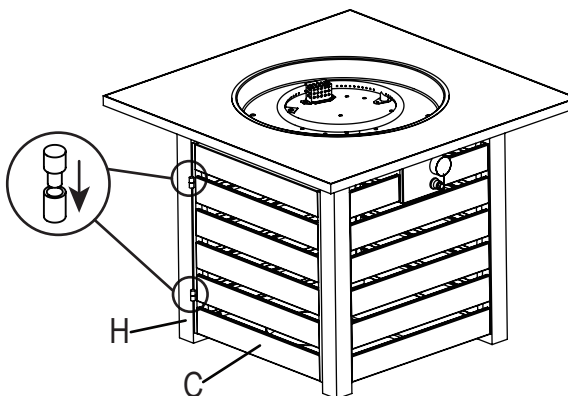

Figure 7
7. With the help of another person, carefully turn the fire pit to the upright position. Attach the door panel (C) to the back-left leg (H) by aligning the hinge on the door panel with those on the back-left leg (I) and inserting the pins in the hinges, (see Figure 7).